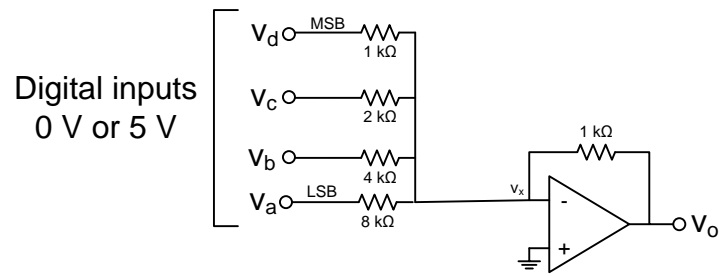

Figure 3: DA converter using summing op-amp.
- (5p) (e) A summing DA converter is shown in Figure 3. Which binary input has been applied to the DA converter if it has an output voltage  $v_o$  of  $-3.8\text{V}$ ?